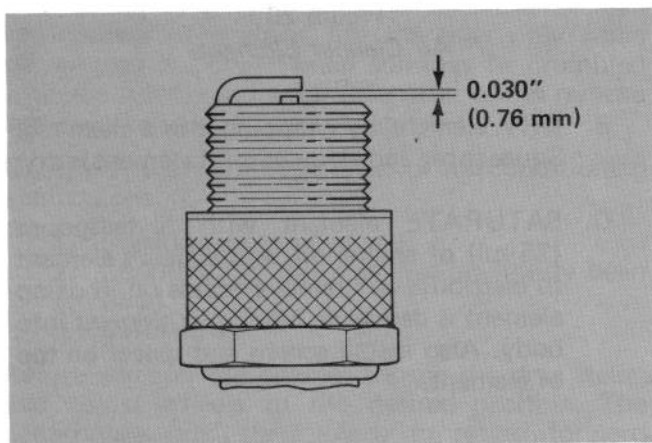

Figure 21
4. Set air gap between center and side electrodes at 0.030 of an inch (0.76 mm) (Fig. 21). Install correctly gapped spark plug with gasket seal, and tighten plug to 15 ft-lb (20.4 N·m). If torque wrench is not used, tighten plug firmly.